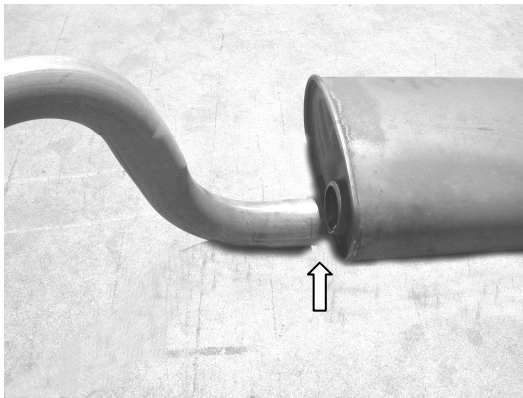

Figure 1
1. Cut the exhaust just after the muffler as shown in figure 1.